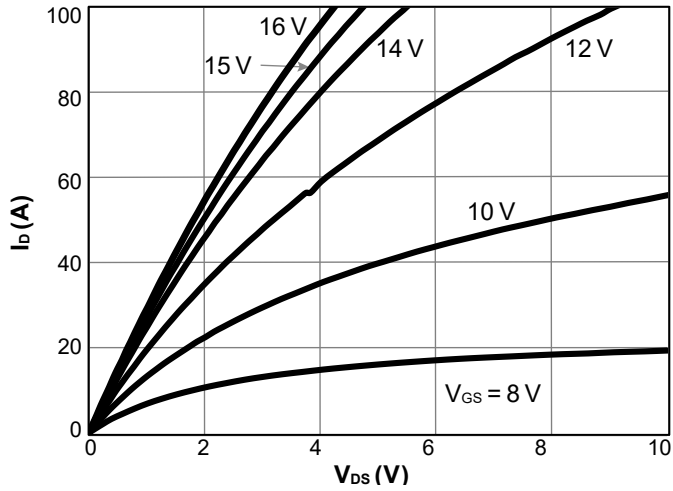

Figure 1. On-Region Characteristics $T_J = 25^\circ\text{C}$
- The static characteristics in Figures 1 to 8 are obtained using $< 300\ \text{ms}$ pulses, duty cycle 0.5% max.